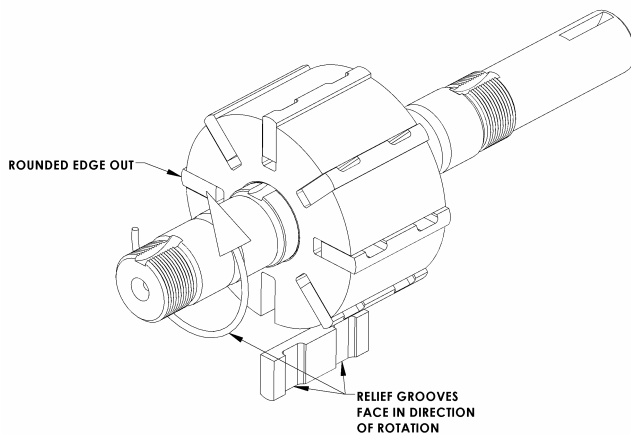
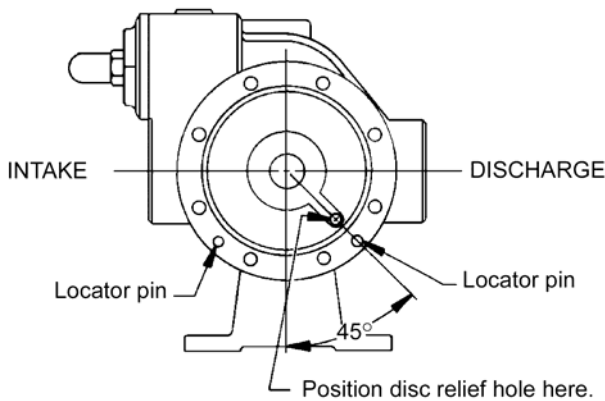

Figure 6 – Vane Replacement
Figure 7 - Disc Relief Hole Location
3. Turn the shaft by hand until a vane (14) comes to the top (12 o'clock) position of the rotor. Remove the vane.
4. Install a new vane (14), ensuring that the rounded edge is UP, and the relief grooves are facing towards the direction of rotation. See Figure 6.
1. Align the liner keyway with the setscrew (74) that extends down into the pump casing (12) and start the liner (41) into the casing. The word "INTAKE" cast on the liner must face the intake port of the pump casing. Uniformly tap the outer edge of the liner with a rubber mallet to fully insert into the casing.
2. Place the disc (71) against the liner (41) with the seal cavity outward and disc relief hole located as shown in Figure 7.
3. Without installing the head O-ring (72) or mechanical seal components, temporarily attach the outboard head (20) and bearing (24) to the casing (12). Install and hand-tighten two head capscrews (21), 180 degrees apart. This head will be used to hold and align the rotor and shaft (13) while the inboard side of the pump is assembled. **NOTE: It is a good practice to attach pump heads to the same ends they were removed from.**
4. Before installing the rotor & shaft assembly (13), the direction of pump rotation must be determined as follows: If the pump is to be **right-hand** with **clockwise** rotation, the intake port and the relief valve must be on the **right** with the drive end of the shaft pointing towards the observer. If the pump is to be **left-hand** with **counterclockwise** rotation, the intake port and the relief valve must be on the **left** with the drive end of the shaft pointing towards the observer.
5. Remove the vanes (14) and push rods (77 - if equipped) from the rotor and shaft assembly (13). Inspect for wear and damage, and replace as follows:
- a. Insert the vanes (14) into the bottom rotor slots with the relief grooves facing in the direction of pump rotation, and with the rounded edges outward. See Figure 6.
- b. If the pump is equipped with the four-vane rotor and shaft (13A), hold the two bottom vanes (14) in place while inserting the two push rods (77).
- c. After the bottom vanes (14) (and push rods, (77 - if equipped) are installed, carefully insert the non-driven end of rotor and shaft into the casing (12).
- d. Install all remaining vanes (14) into the top positions of the rotor.
6. Install the disc (71) on the inboard side of the pump with the seal cavity facing outward and the disc relief hole located as shown in Figure 7.
7. Install a new head O-ring (72) in the groove between the disc (71) and the casing(12).
- d. Apply a small amount of motor oil in the seal recess of the head (20).
9. Carefully install the inboard head assembly (20) over the shaft. Do not contact the end of the shaft with the polished face of the stationary seat. Center the head on the pump casing (12). Install and uniformly tighten four head capscrews (21) 90° apart; torque to 15 lbs ft (20.3 Nm). **NOTE: It is a good practice to attach pump heads to the same ends they were removed from.**